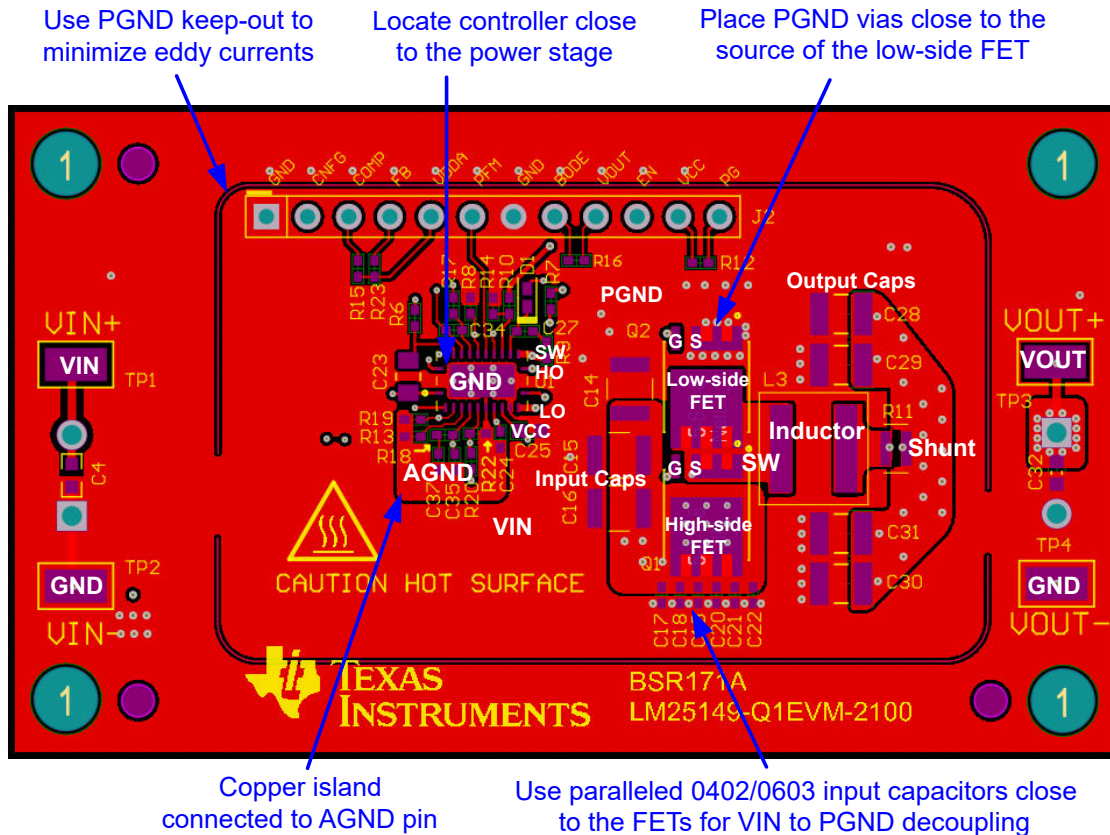

Figure 11-2. PCB Top Layer – High Density, Single-sided Design
- Connect AVSS to a quiet GND connection, further from IC if possible. Keep decoupling capacitor  $C_{AEFVDDA}$  close to the AEFVDDA pin and AVSS GND connection. See capacitor C23 in Figure 11-2.
Figure 11-2 shows a single-sided layout of a synchronous buck regulator with discrete power MOSFETs, Q1 and Q2, in SON 5-mm × 6-mm case size. The power stage is surrounded by a GND pad geometry to connect an EMI shield if needed. The design uses layer 2 of the PCB as a power-loop return path directly underneath the top layer to create a low-area switching power loop of approximately 2 mm2. This loop area, and hence parasitic inductance, must be as small as possible to minimize EMI as well as switch-node voltage overshoot and ringing.
- Make the ground connections to the LM25149 controller as shown in Figure 11-2. Create a power ground directly connected to all high-power components and an analog ground plane for sensitive analog components. The analog ground plane for AGND and power ground plane for PGND must be connected at a single point directly under the IC – at the die attach pad (DAP).